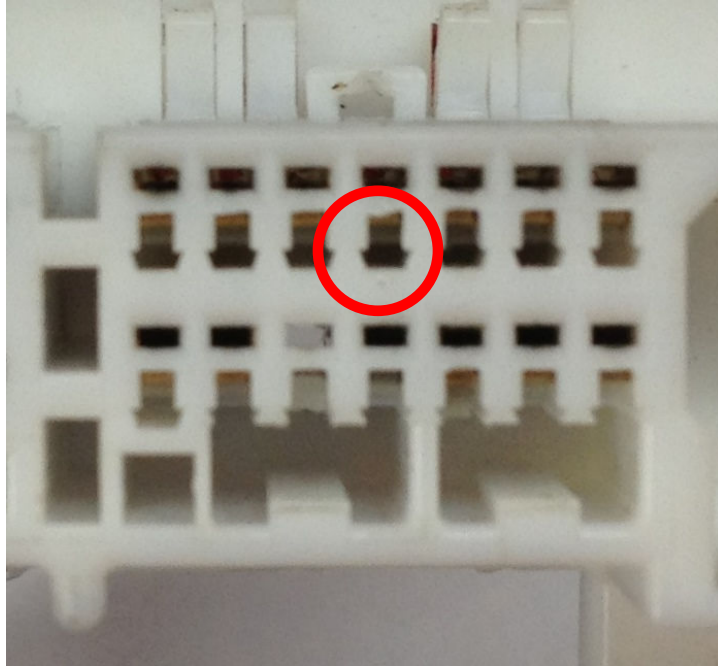

Figure 4: Pry this tab up with the screwdriver or paper clip to release pin
2. Next, remove the pin from the plastic connector by lightly prying on the plastic tabs that secure the pin in the plastic connector while gently pulling on the wire at the same time as shown in figures 4 and 5.